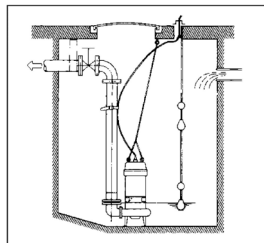

Fig. 1
- (1) Clean the installation site.
- (2) The electrical cable must not be subjected to any type of pulling while the pump is being transported or installed. Use a chain or steel cable attached to the handle to hoist the pump.
- (3) Make sure that the pump will be installed vertically on a stable and level base.
- (4) Install the pump in a location within the station where turbulence is minimal.
- (5) If there is any type of liquid flow inside the tank, secure the electrical cable in an appropriate location (See Fig. 1).
- (6) Install the piping in a way that does not allow air to enter. If the piping must be installed in a way that it is inevitable for air bubbles to enter, install an air relief valve in the line.
- (7) Do not allow the end of the discharge pipe to be submerged, as backflow may occur when the pump stops.
- (8) DG pumps (all) and BST/TSBT (three-phase) do not have an automatic float-based level control system. Do not operate the pump for a long time at a low water level, close to the minimum level. If this happens, the motor may overheat and activate the thermal protector.